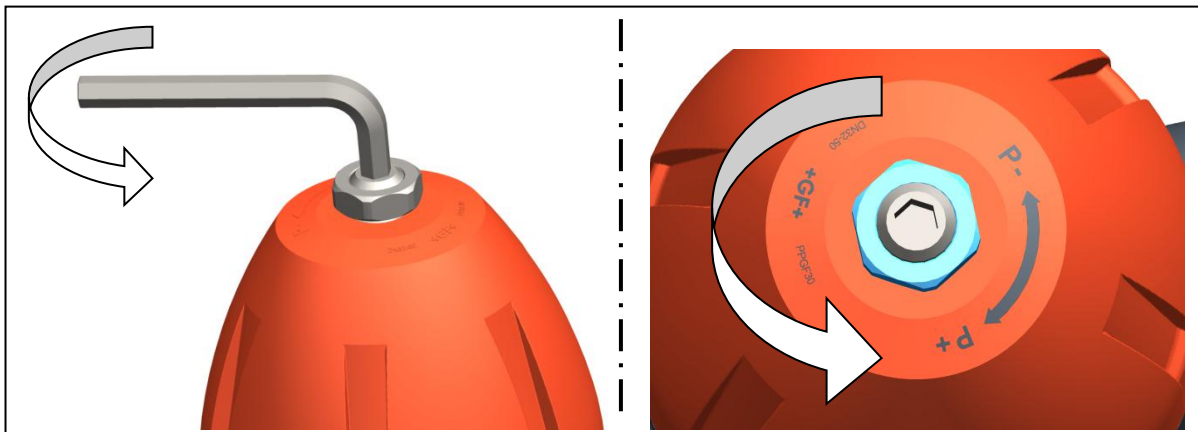

Fig. 5
- In order to decrease the setpoint value: Relax the spring. To do so, turn the spindle counterclockwise, see Fig. 5